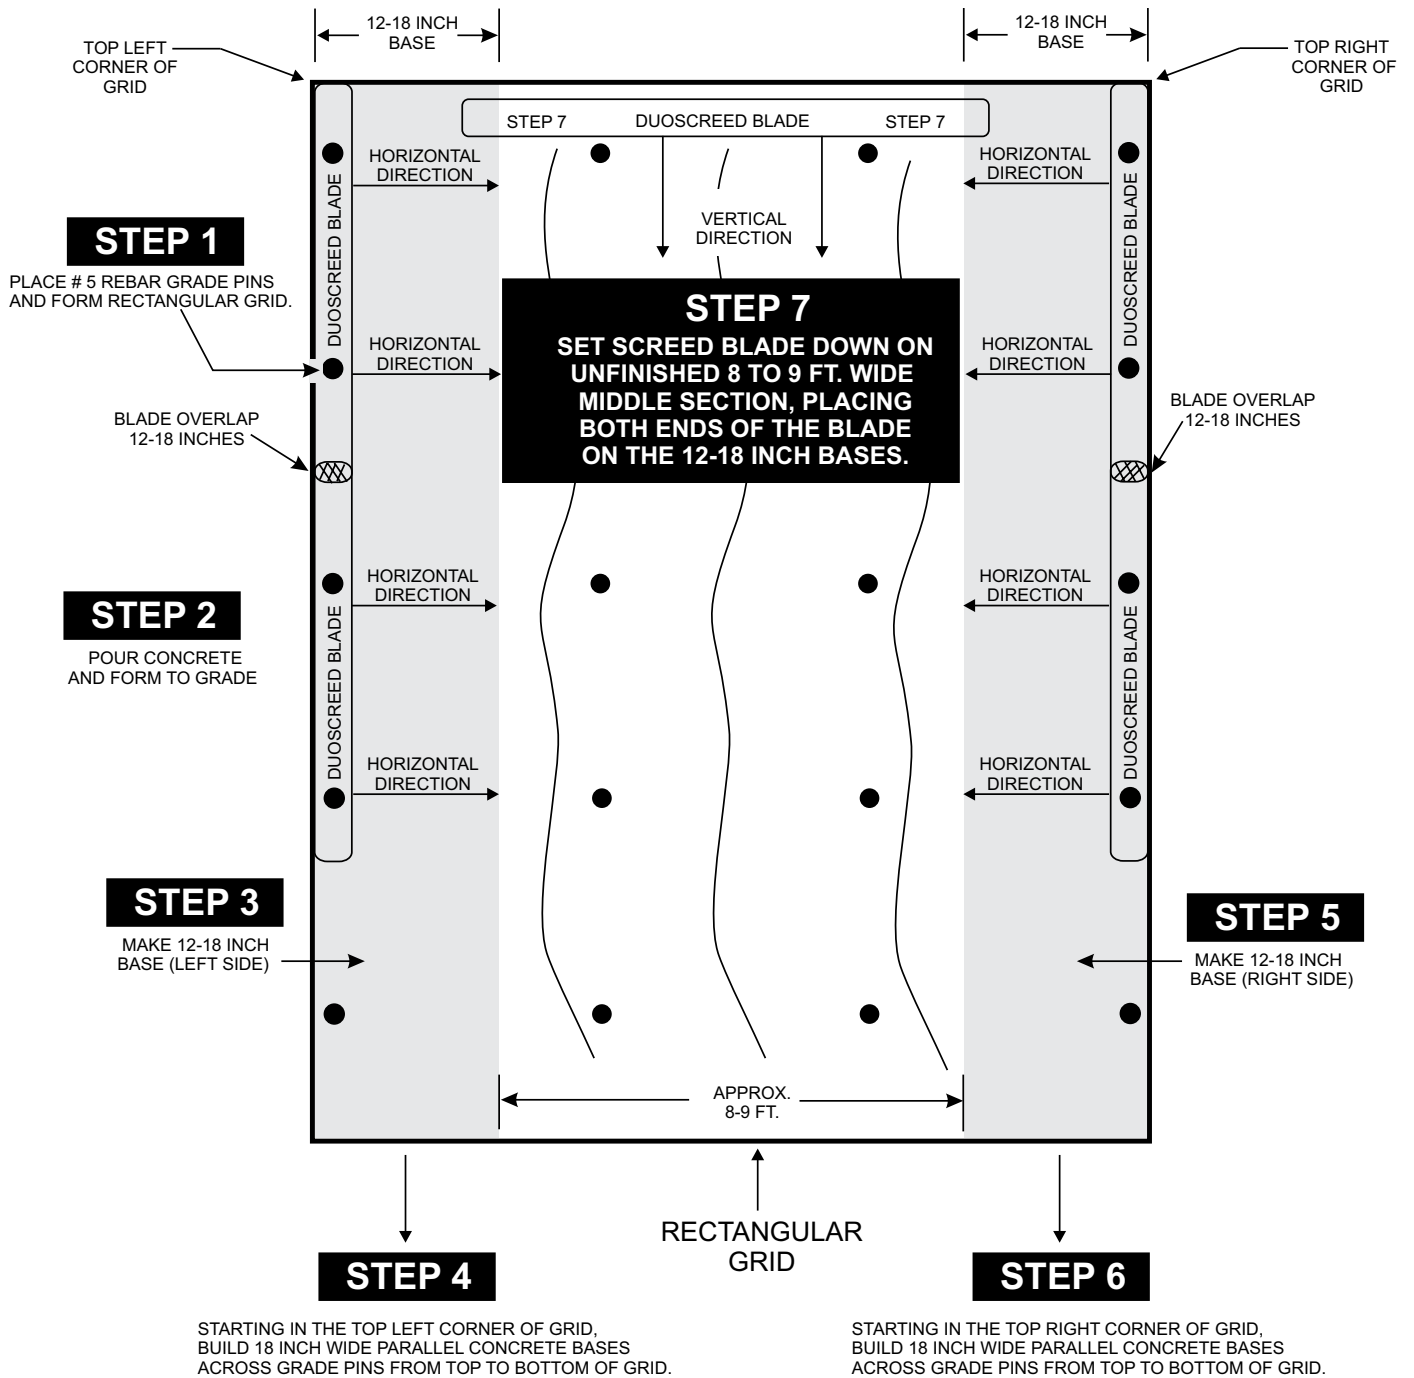

Figure 17. DuoScreed Wet Screeding Application
8. Set the DuoScreed blade down in the concrete base in the **left** most corner of the grid between the two grade pins as shown in Figure 17. Adjust the DuoScreed's handle bar to a height where the operators is not bending over, but standing upright with arms extended forward.
12. After a complete pass over the first set of grade pins has been made, remove the DuoScreed from the concrete base and position it over the second set of grade pins (Figure 17), overlapping the first set of grade pins between 12-18 inches. Repeat this process until all **left** edge grade pins have a level base between 12-18 inches wide.